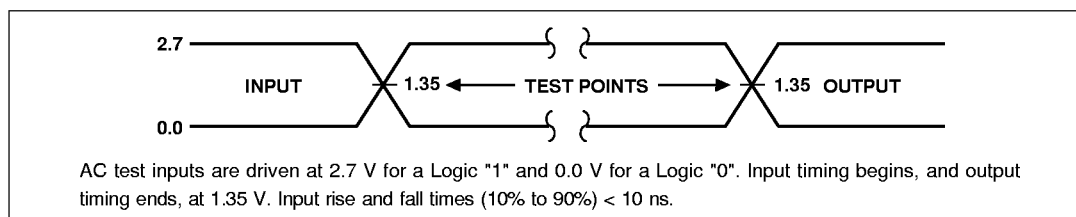
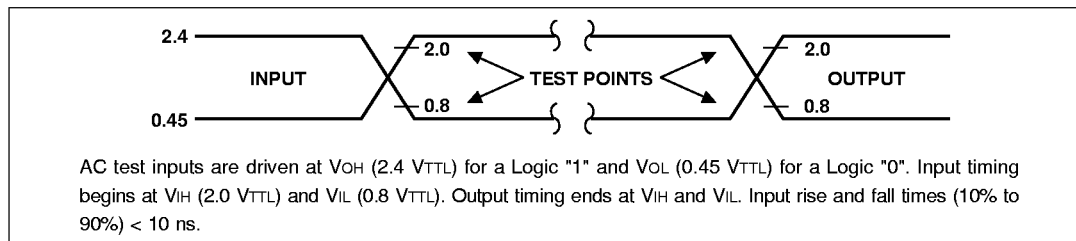

Fig. 9 Transient Input/Output Reference Waveform for Vcc = 2.7 to 3.0 V
Fig. 11 Transient Input/Output Reference Waveform for Vcc = 5.0±0.5 V (Standard Testing Configuration)
1. See AC Input/Output Reference Waveform (Fig. 9 through Fig. 11) for maximum allowable input slew rate.